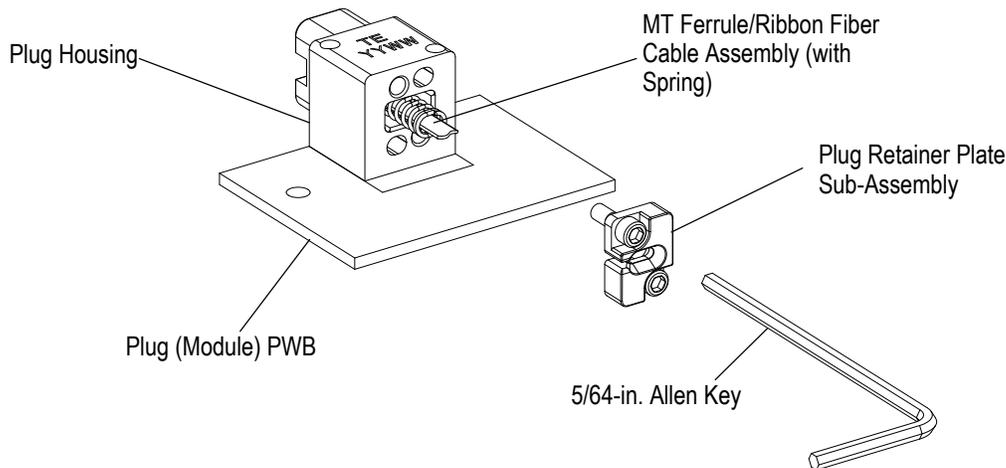

Figure 12
**A. Plug (Module) Connectors** (Figure 12)